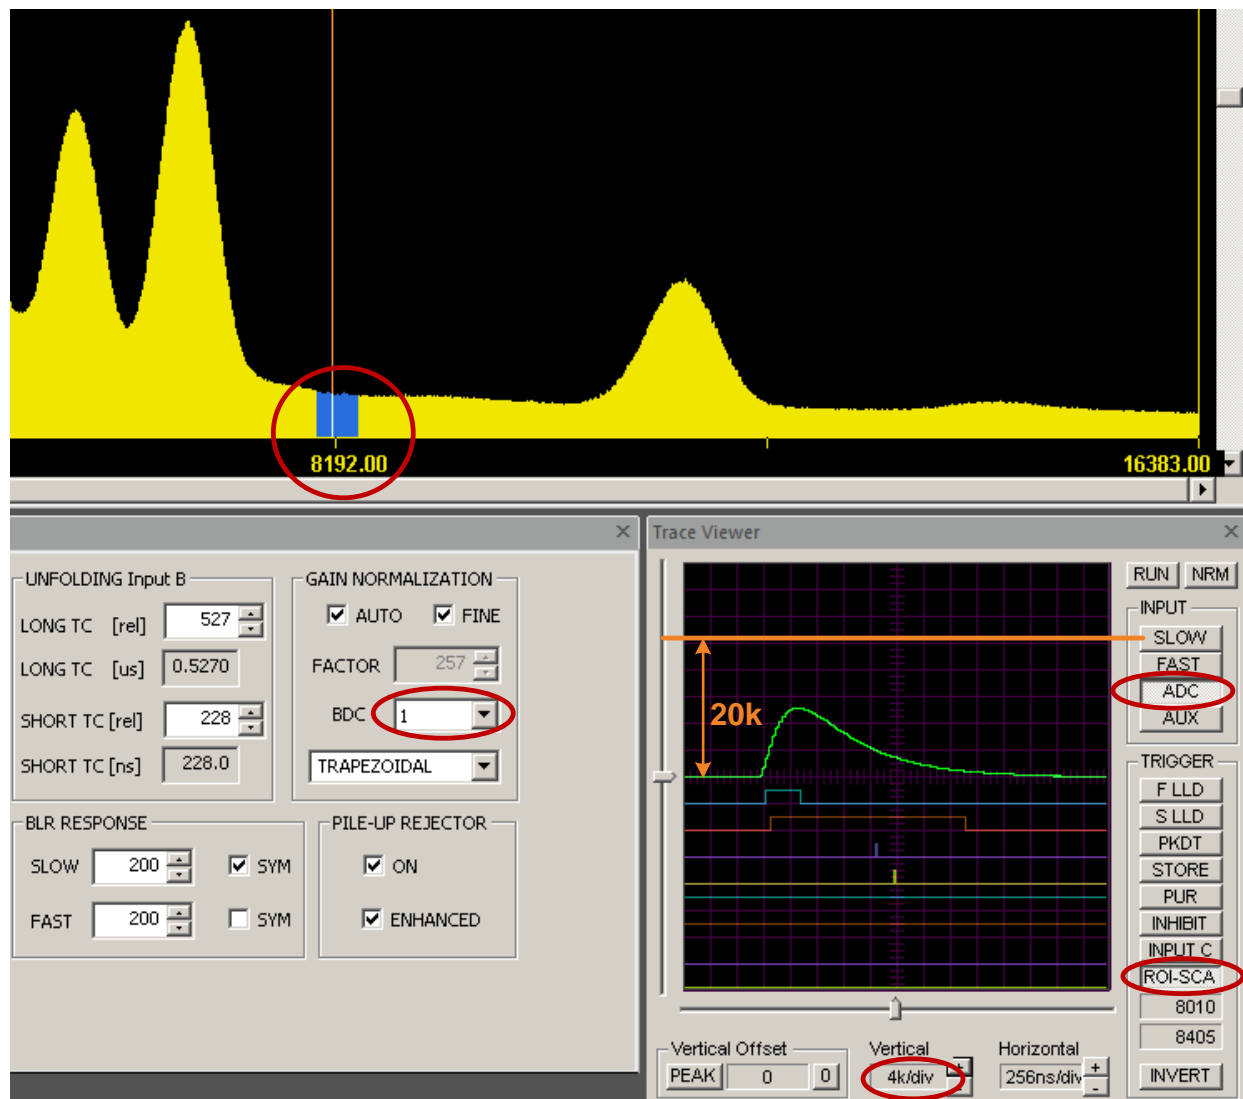

Figure B1. Example BDC that is not optimally adjusted.
- 2) Acquire a spectrum at 16384 channel soft size and adjust the gain so that there are well above the half of the full spectrum size (16384) (Fig B1).